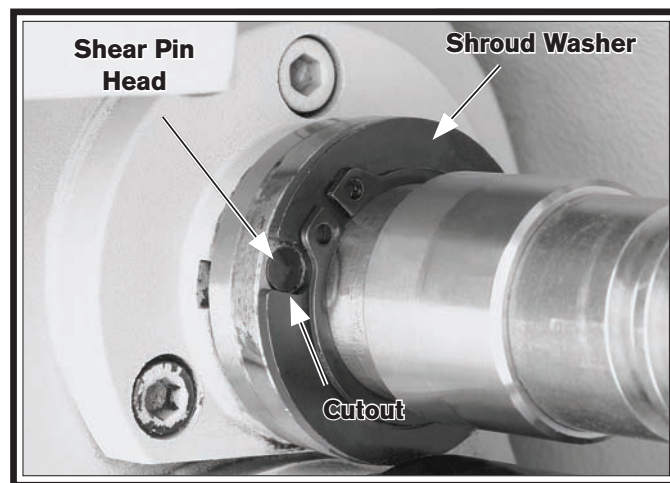

Figure 144. Shroud washer/pin alignment.
3. Rotate the shroud washer so the cutout lines up with the shear pin head, as shown in **Figure 144**.